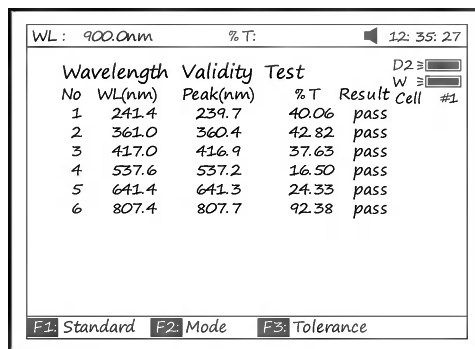

Fig 99
6. Put the sample (calibrated holmium liquid) into Main Light Path. Press **【START】** to check. The results will be displayed on the screen (Fig 99). If the discrepancy between the results and the calibrated values is not more than the tolerance, "pass" will be displayed after the test results. Otherwise, "fail" will be displayed.